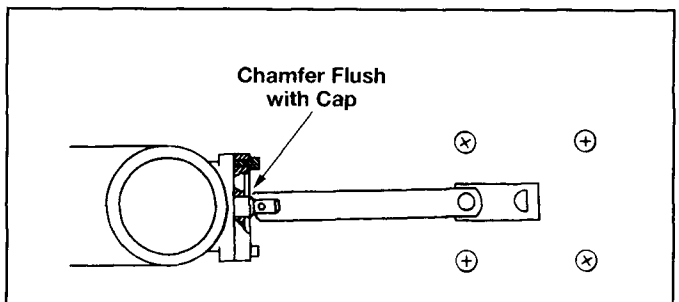

Figure 11 Service Position
9. Allow the valve to remain in the **FAST RINSE** position until the timer automatically moves the piston to the **SERVICE** position (Figure 11) in approximately 11 minutes.